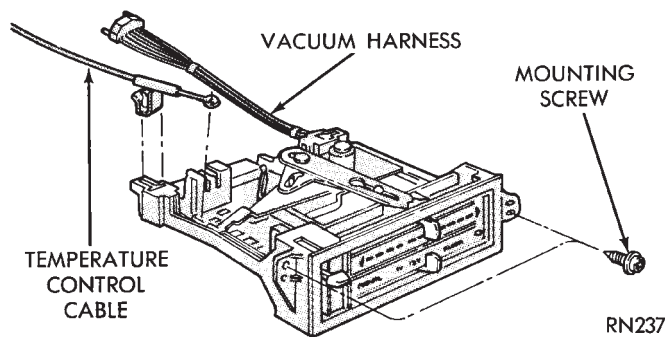

Fig. 50 A/C Control
(1) Remove center bezel. Disconnect ash receiver lamp socket.
(2) Remove glove box assembly. Refer to Glove Box Assembly Replacement.
(3) Reach through glove box opening and disconnect vacuum lines.
(4) Remove two control mounting screws (Fig. 50).